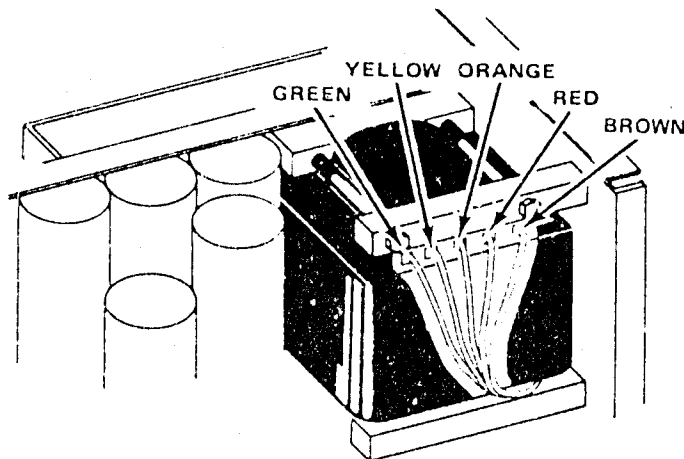

Fig. 2. Power Transformer Connections
- () 6. Solder the wires in the DM44 cable to the unused terminals on the power transformer as shown in Fig. 2 above.